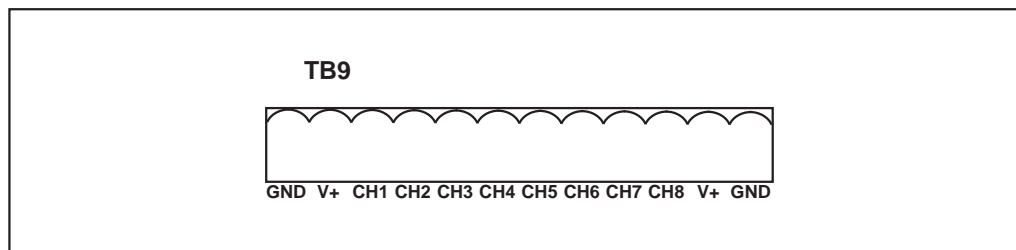

Figure 3-7. Terminal Block TB9 on HD19 PC Board: Pin Designations
2. Wire your die-mounted sensors to terminal block TB9 on the HD19 PC board, referring to Figure 3-7, below, and Table 3-3, page 3-9 for wiring connections.